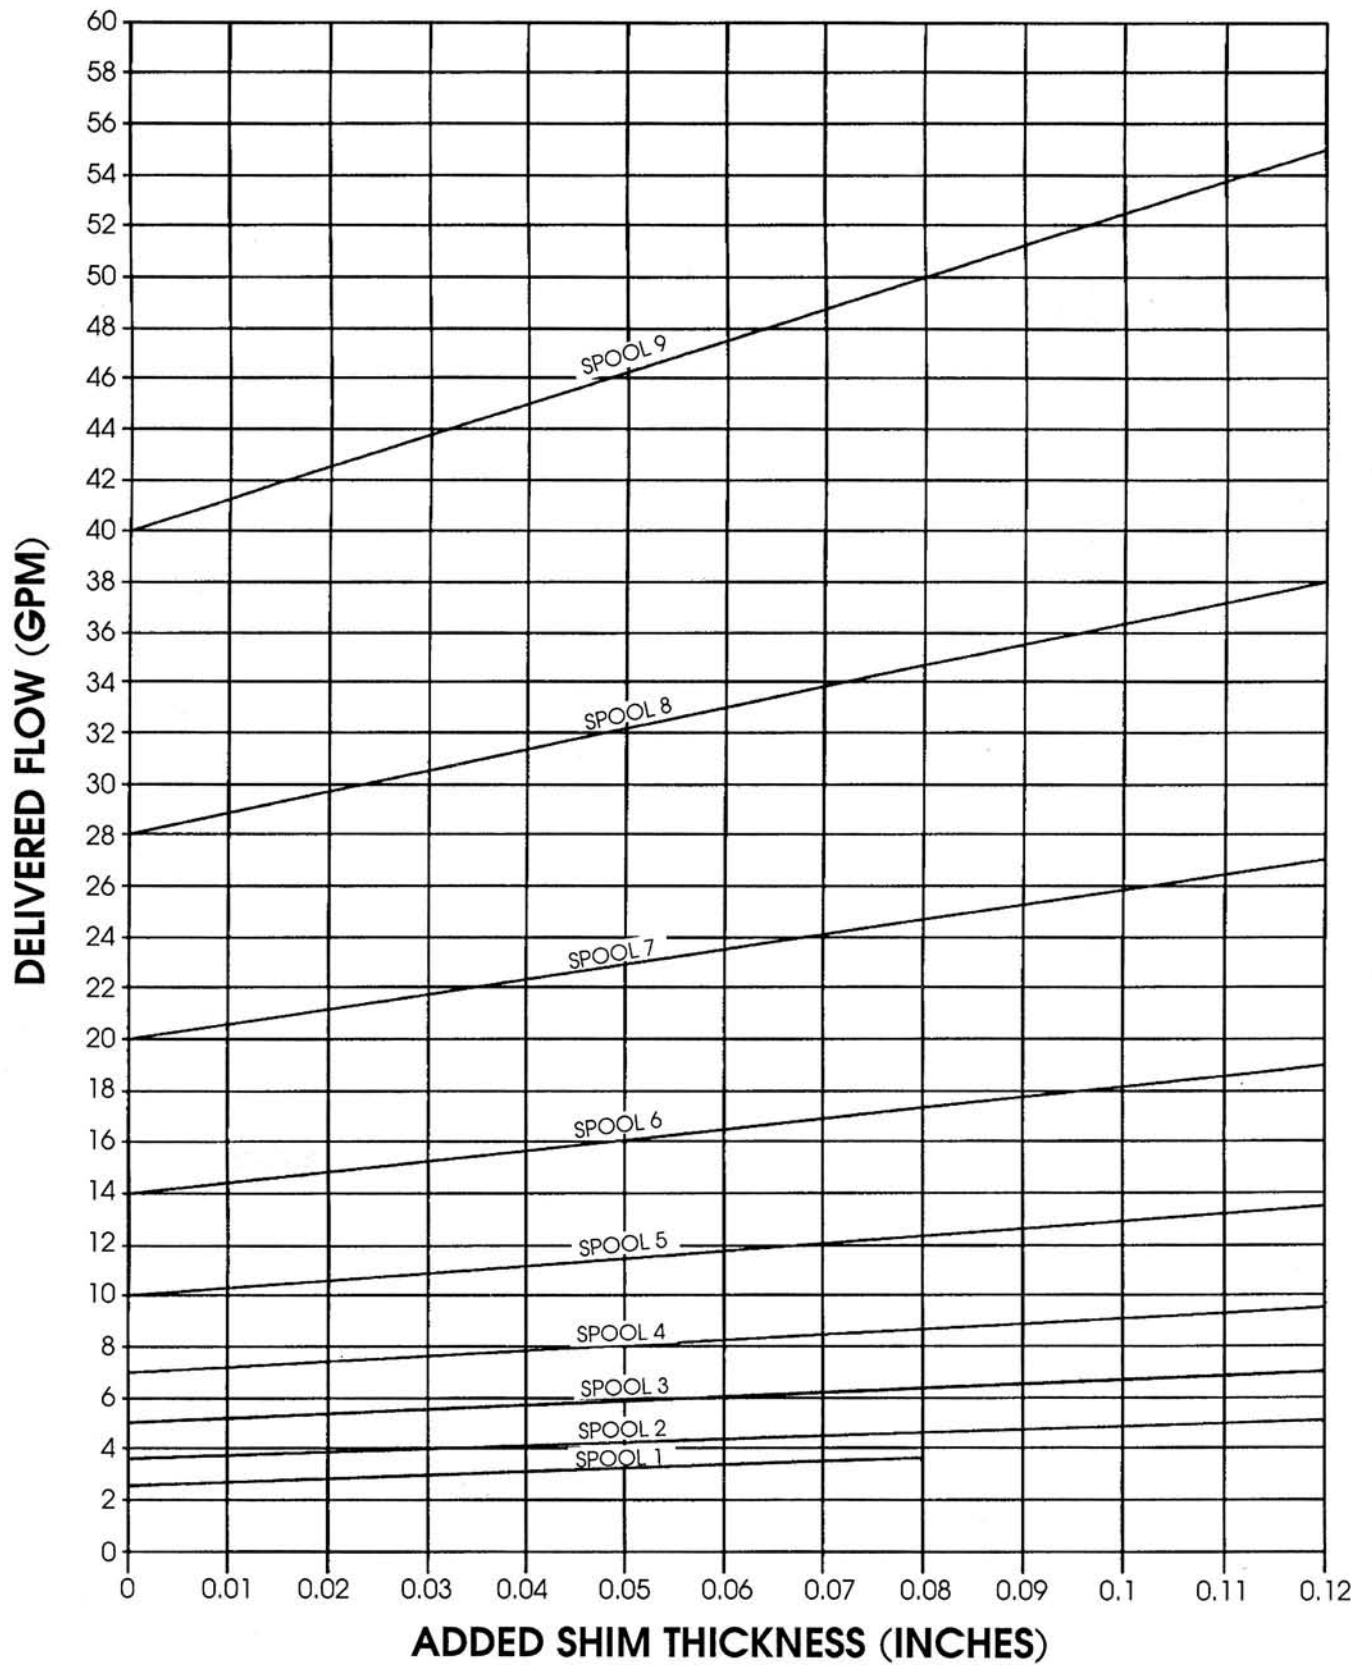

FIGURE 3
- Figure 3 shows the relationship between "DELIVERED FLOW" through a segment compared to the "ADDED SHIM THICKNESS" required to increase the flow above its rating. These curves provide only approximate thickness adjustments and require testing to confirm the flow.
2. For flow rates above the factory setting, back out the flow limiters until the desired flow is achieved. Or, if flow limiters are no longer positioned to short-stroke the spool, then add shim stock according to the Flow Setting Graph (Figure 3) to increase flow through the segment up to 40 GPM (152 L/min) max., and adjust flow limiters as needed.